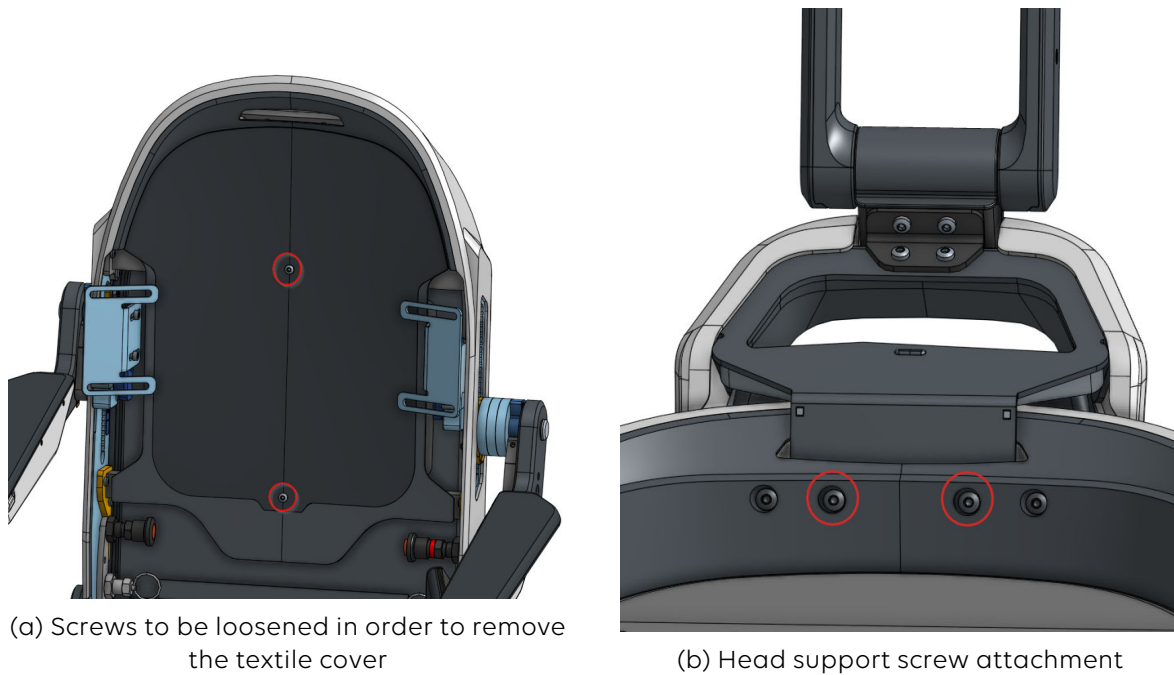

Figure 20. Attach/remove the head support
2. (Figure 20, "Attach/remove the head support" [30])
3. Insert the head support into the slot provided and secure the two supplied screws from below (recommended torque: 6Nm) (Figure 20, "Attach/remove the head support" [30]))